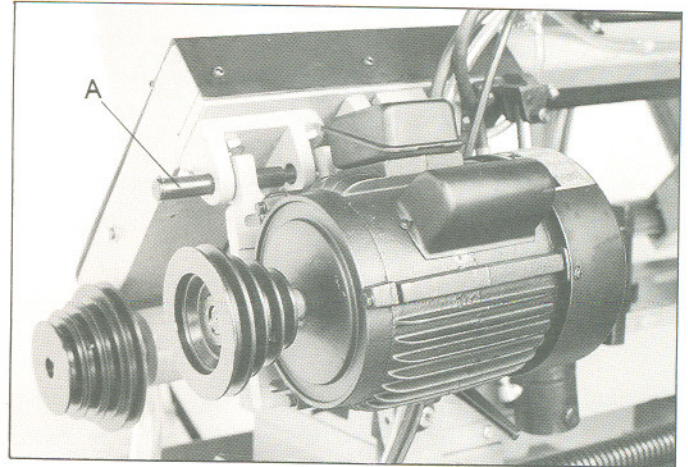

Fig. 2
3. Remove shaft (A- Fig. 2) from the motor mount bracket.